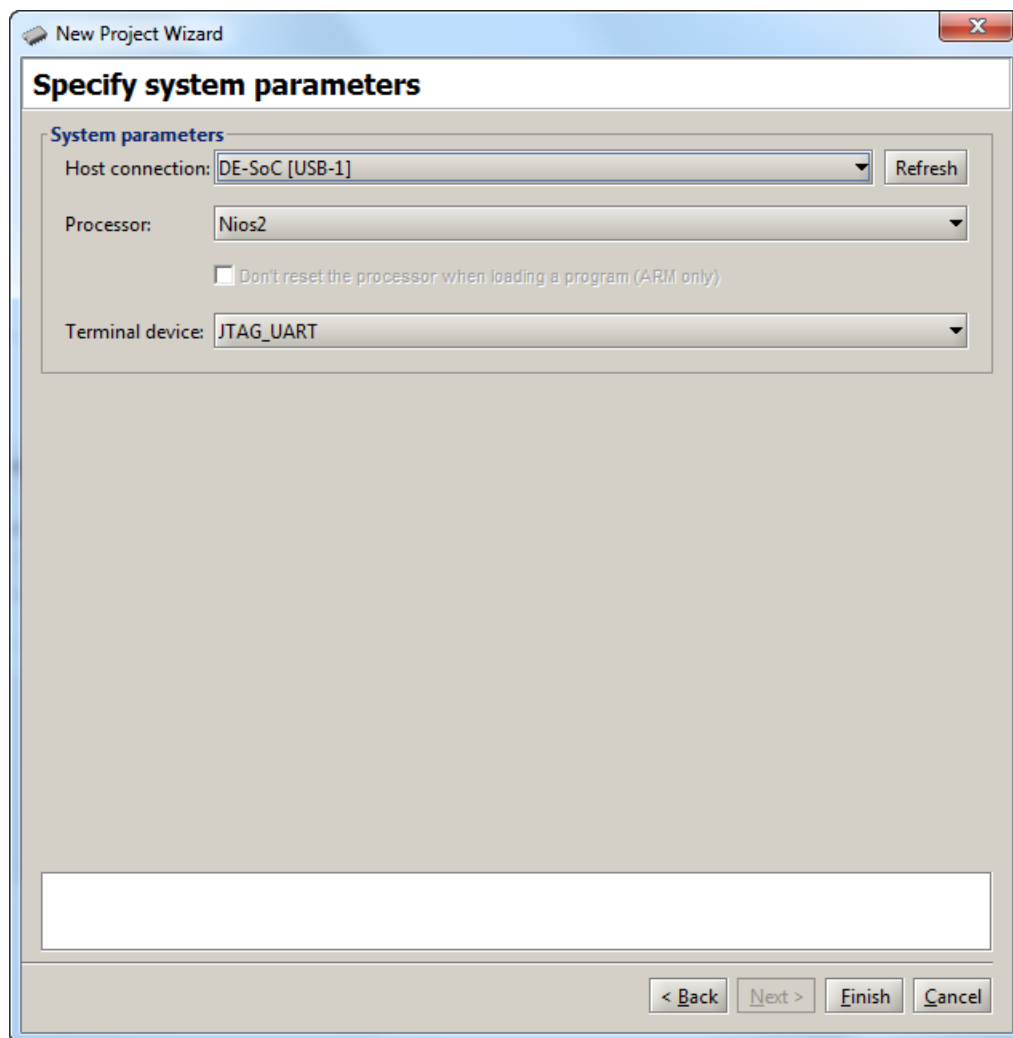

Figure 9. Specifying system settings.
- Click **Next** to advance to the window in Figure 9. This window is used to specify the connection to the FPGA board, the processor that should be used (some hardware systems may contain multiple processors), and the terminal device. The **Host connection** drop-down list contains the physical connection links (such as cables) that exist between the host computer and any FPGA boards connected to it. The processors available in the system are found in the **Processor** drop-down list, and all terminal devices connected to the selected processor are displayed in the **Terminal device** drop-down list. We discuss terminal devices in Section 6.
Accept the default choices that are displayed in Figure 9. If the Host Connection box is blank, make sure that the DE1-SoC board is connected to the host by a USB cable and that its power is turned on. Then, press the **Refresh** button and select the USB Blaster as the desired choice. For the DE1-SoC board the required choice is DE-SoC.